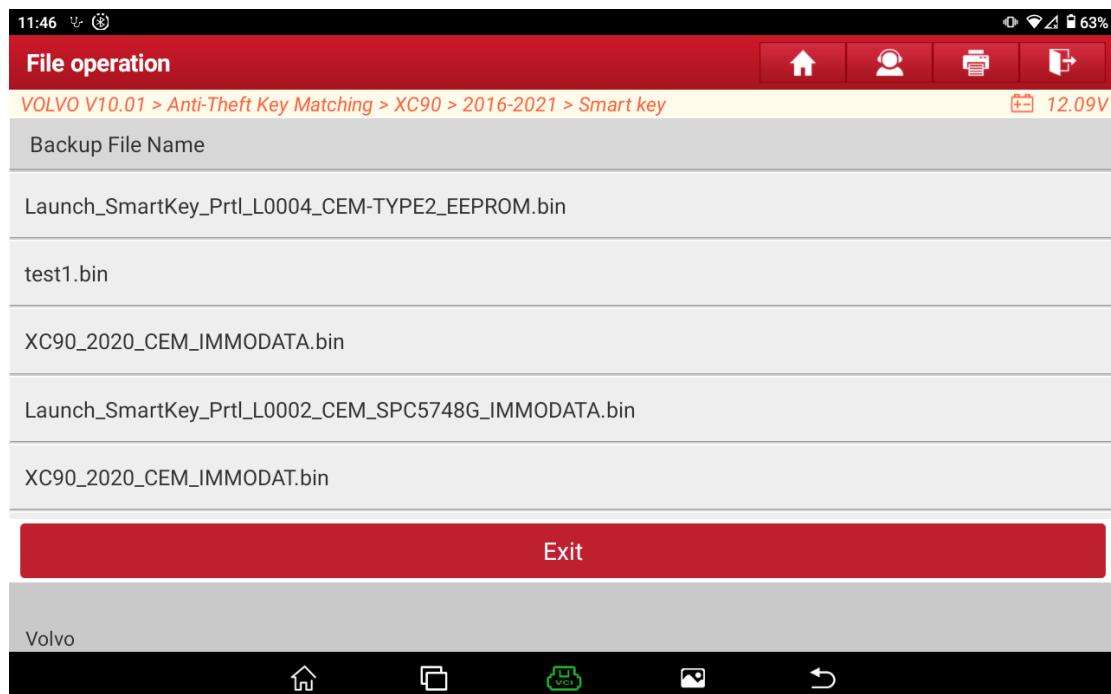
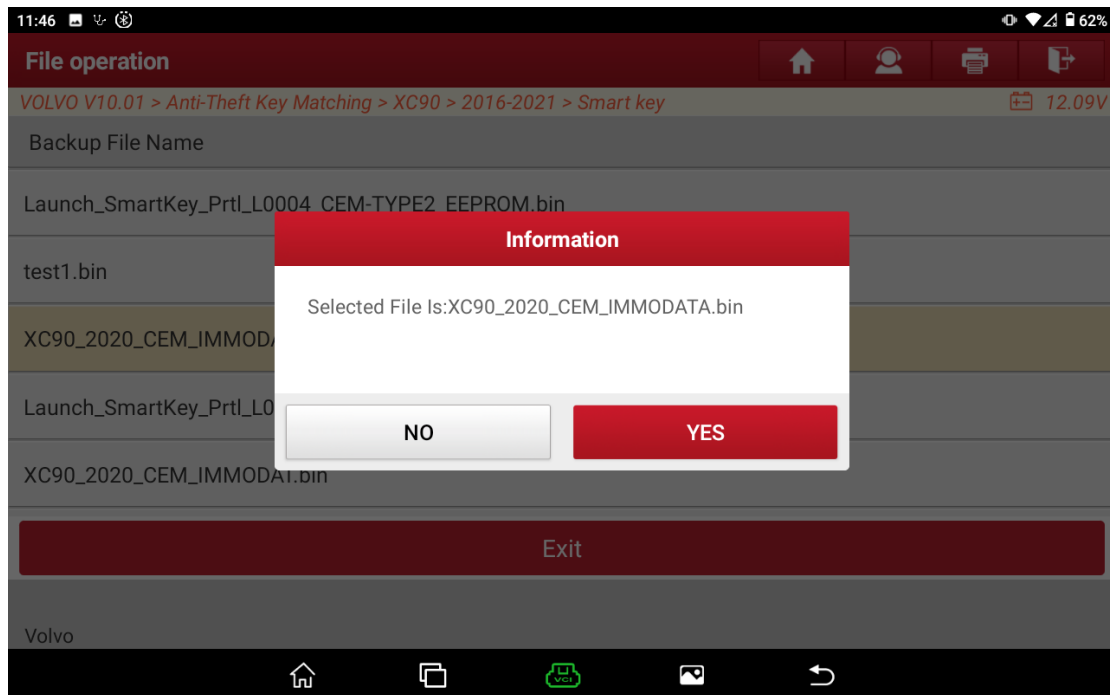

Figure 25
Figure 26
- 4) Select the read data file, here we select file XC90_2020_CEM_IMMODATA.bin(see Figure 25, Figure 26